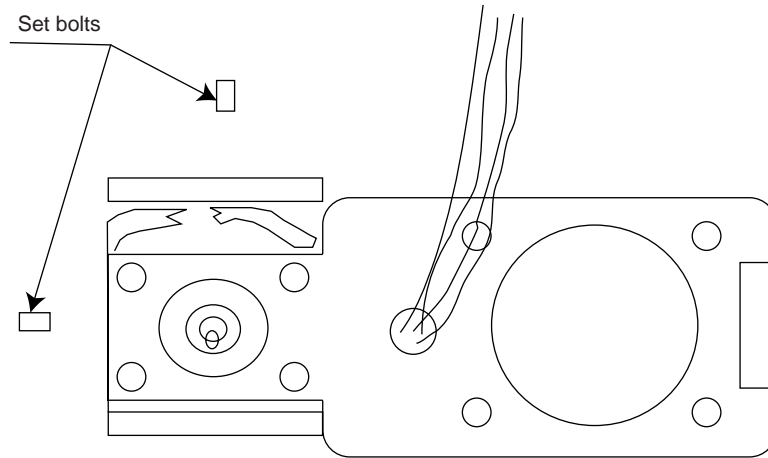

Figure B-5. Removal of Set Bolts
8. Paint a mark on the pulley (see Figure B-5).
9. Remove the two pulley set bolts and remove the pulley (see Figure B-5).
10. Remove the wires from the base plate (see Figure B-5).